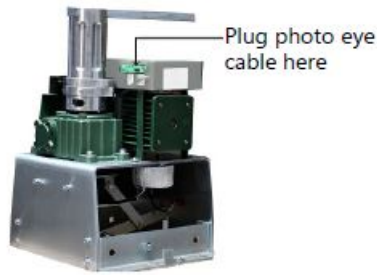

Figure 11
1. Plug the photo eye cable to the back of the gate opener, behind the circuit board, Figure 11